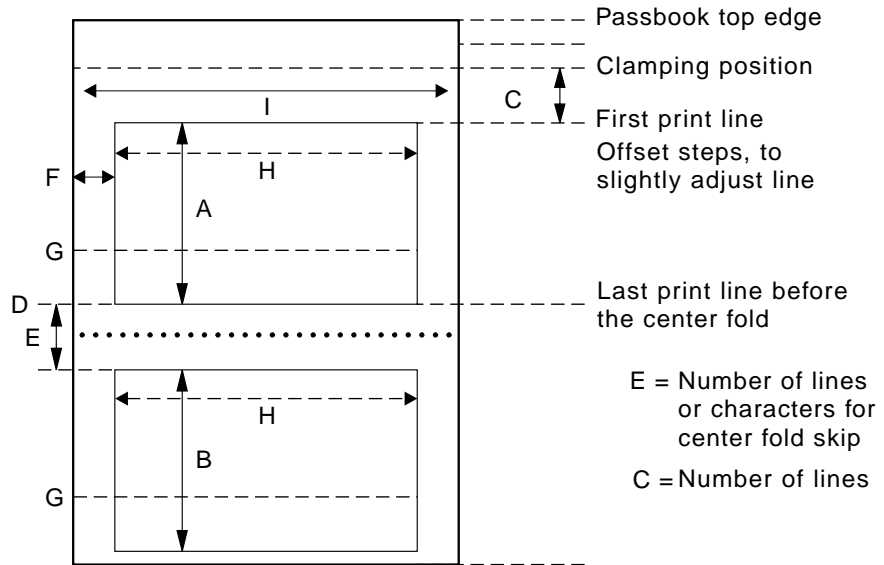

Figure 11. Passbook Dimensions for IBM 4772 and 9068 Printer Customization
**BKWIDTH** Is an optional keyword to define the book width of the open document in millimeters (mm). The allowed values are from 127 to 212. The default is **210** (refer to 'I' in Figure 11 on page 319.).
Is an optional keyword to define the total number of lines or character positions skipped for horizontal fold or vertical fold passbooks. (Refer to 'E' in Figure 11 on page 319)
**HRZOFFS** Is an optional keyword to define the horizontal character offset. That is, the number of characters that the first print character is to be offset beyond the minimum distance from the left edge (refer to 'F' in figures 11 and 12 on page 319).
**LINELEN** Is an optional keyword to define the maximum line length (number of characters being written in one line) (refer to 'H' in figures 11 and 12 on page 319).